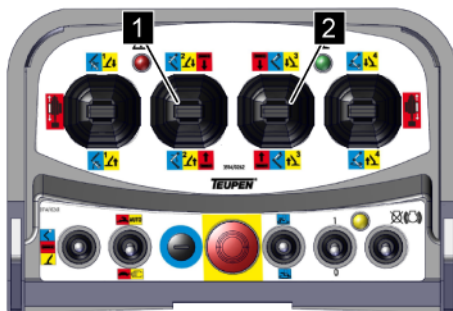

Fig. 148: Control levers for height adjustment
4. → Use the control levers (Fig. 148/1 and 2) to operate the crawler chassis as per the following table.